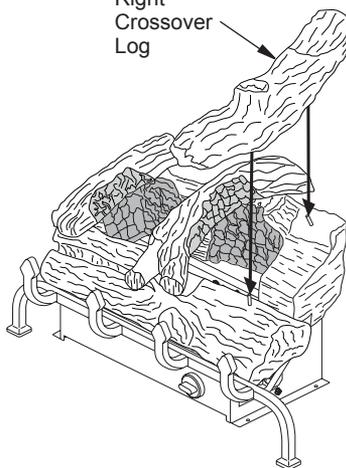

Figure 20 - Installing Left Crossover Log
- Place the right crossover log as shown in Figure 20. The bottom of the log is marked with a "R" for right. Match square peg on right side of rear log with square hole in bottom of right crossover. Match round peg on right side of front log with round hole in bottom of right crossover log.